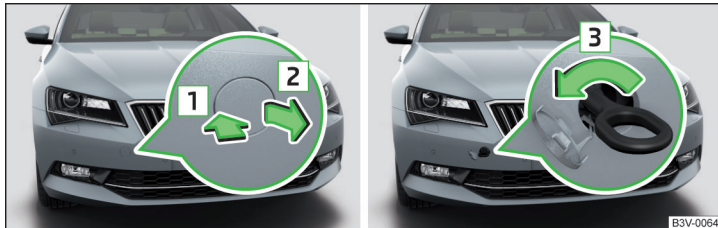

Fig. 338 Remove cap / install towing eye
- › To **remove**, press on the cap in the direction of the arrow **1** and remove this in the direction of arrow **2** » Fig. 338.
- › To **install**, screw in the towing eye by hand in the direction of arrow **3** » Fig. 338 until the stop » **!**